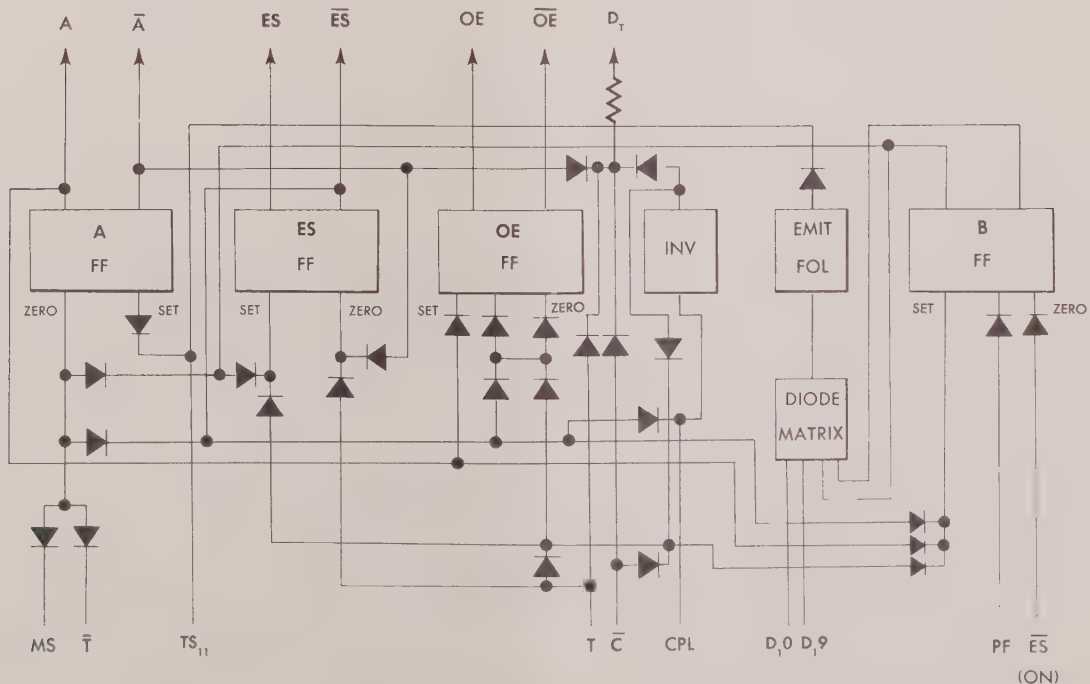

Figure 4-10. "B" Board Block Diagram.
4-6 B Board Located on the B board, as shown in Figure 4-10, are the A, B, and ES flip-flops associated with the end-of-scan logic, the OE FF associated with the compute logic, an inverter, and an emitter follower. The emitter follower is driven by the diode matrix, and provides the "O" and "9" CPL lockout for Decade 1 by shorting transfer switch position 11 (TS_{11}) to ground.
All FF's in the V34 and V35 are triggered by positive pulses as described in Section 4-4 except the A FF. Figure 4-10 shows the A FF trigger diodes reversed. The triggers for the A FF operate in the same manner as in the other FF's except that the trigger turns the transistor on rather than off. The MODE switch (MS) controls the zero trigger to A when B is zero and ES is set. A is zeroed at the middle of the bit by $\bar{T}$.